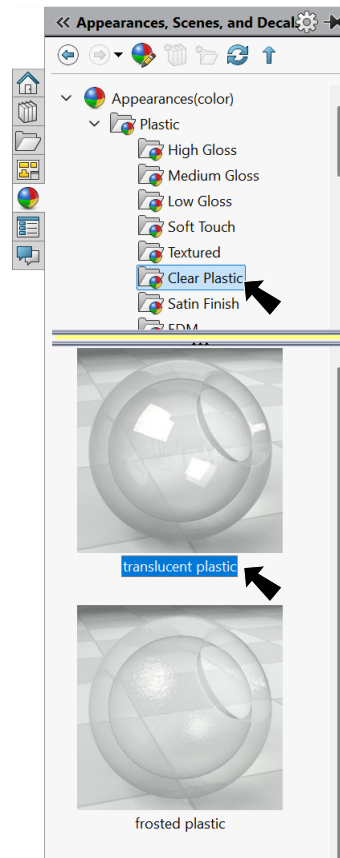

Fig. 12
Step 2. In the Appearances Task pane, expand **Plastic**, click **Clear Plastic** and in the lower pane select **translucent plastic**, Fig. 12.